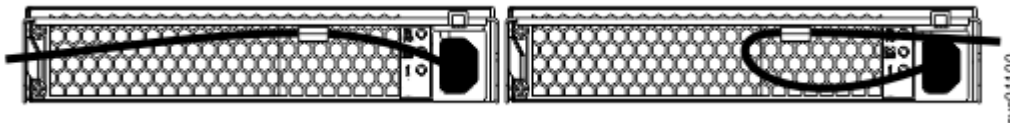

Figure 72. Routing the power cables through the cable retainers
4. Remove the power cable from the cable retainer (Figure 72 on page 111). To do so, push the cable forward to unhook it from the cable retainer.